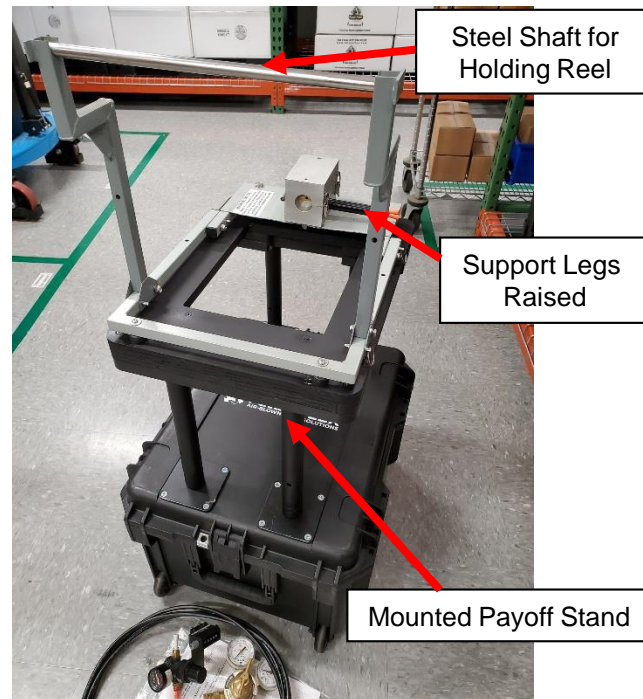

Figure 3
6.9 Raise Payoff Stand fiber reel support legs to vertical position and insert quick-release pins (provided on Payoff Stand) to lock legs in place. **See Fig. 3.**